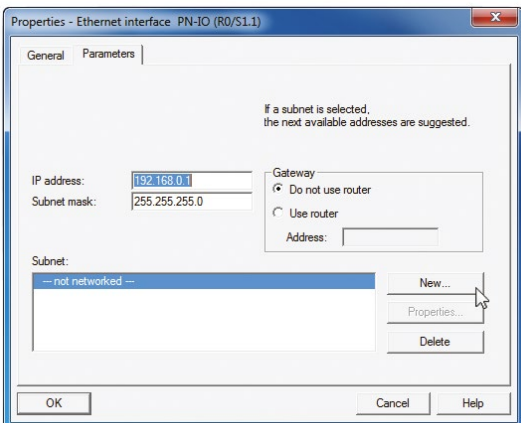
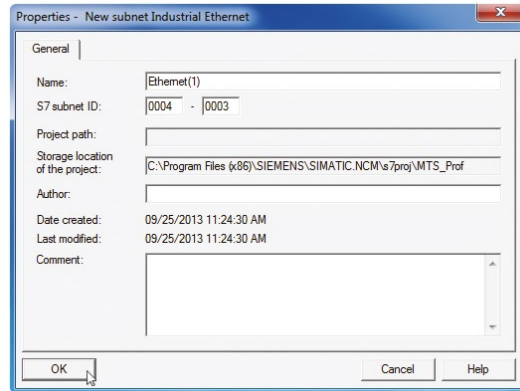

Fig. 58: Set IP address of CP1616 (source: Siemens)
Fig. 59: Create a subnet (source: Siemens)
- CP1616 (Fig. 58)
The dialog box “Properties – Ethernet interface” opens (Fig. 58). Set the IP address of your CP1616.
6. To create a subnet, click button “New” (Fig. 58). Window “Properties – New subnet” opens (Fig. 59). Define a name and click “OK” to confirm your entry.